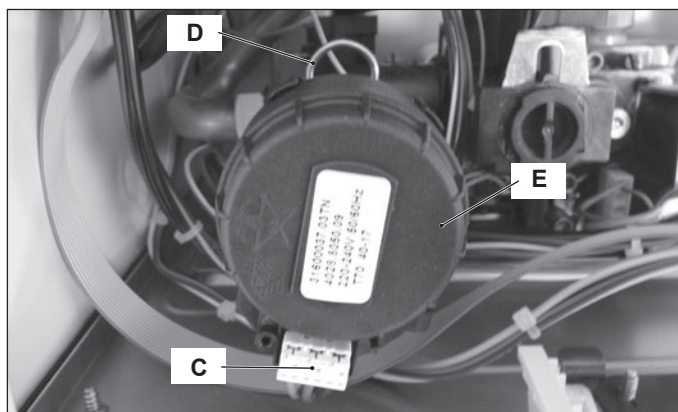

Figure 8.4
- 2 Disconnect the connectors "C" (Figure 8.4).